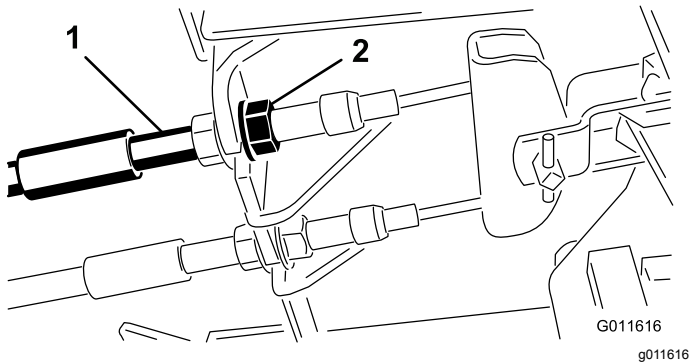

Figure 98
1. To reduce free travel of the brake pedals, tighten the brakes by loosening the front nut on the threaded end of the brake cable (Figure 98).